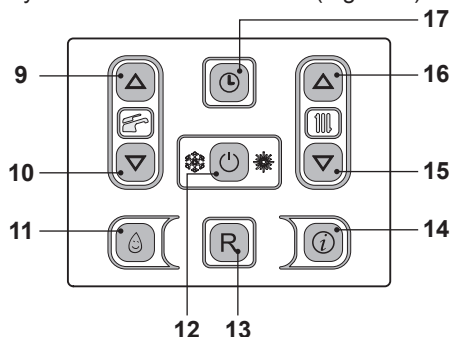
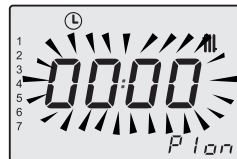

Fig. 2.11
Fig. 2.12
Enter "programming mode" by holding down keys 16 and 17 for 5 seconds (Fig. 2.11).
Press keys 9 or 10 (Fig. 2.11) to select individual days 1, 2, 3, 4, 5, 6, 7, or if you want to select a group of days, hold down key 9 until groups (1-5) (1-6) (1-7) (6-7) are displayed (flashing), then confirm by pressing key 12. The days or group of days selected are indicated via the icons on the left hand side. We have selected (1-7) group of days in this example (Fig. 2.12):